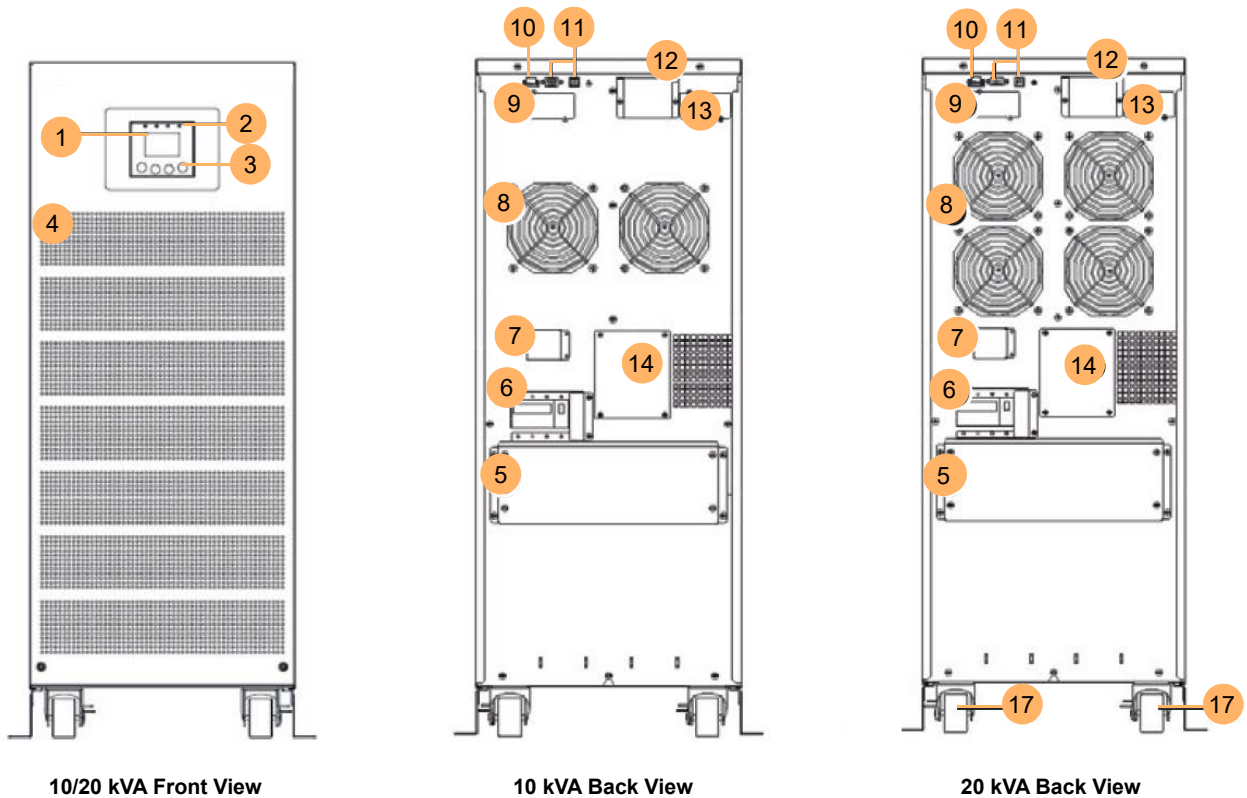

Figure 2.7 PowerWAVE 3000/TP Controls identification
To expand the overall UPS system rating, up to four PowerWAVE 3000/TP UPS cabinets can be connected together to operate as a parallel UPS system. This is achieved by connecting each cabinet's output power terminals in parallel at an external load distribution panel and linking together the parallel control bus in each cabinet to effectively provide a common parallel control bus. The parallel control bus cable is connected to a socket located near the top rear of the cabinet which is covered by a blanking plate when not used (item 12 in Figure 2.7).